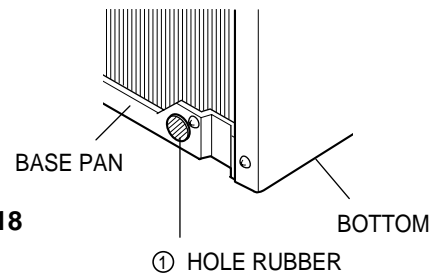

Figure 18
If the air conditioner is used in hot and a high humidity zone, exchange the ① HOLE RUBBER for the ② DRAIN PIPE.(See figure 18, figure 19.)